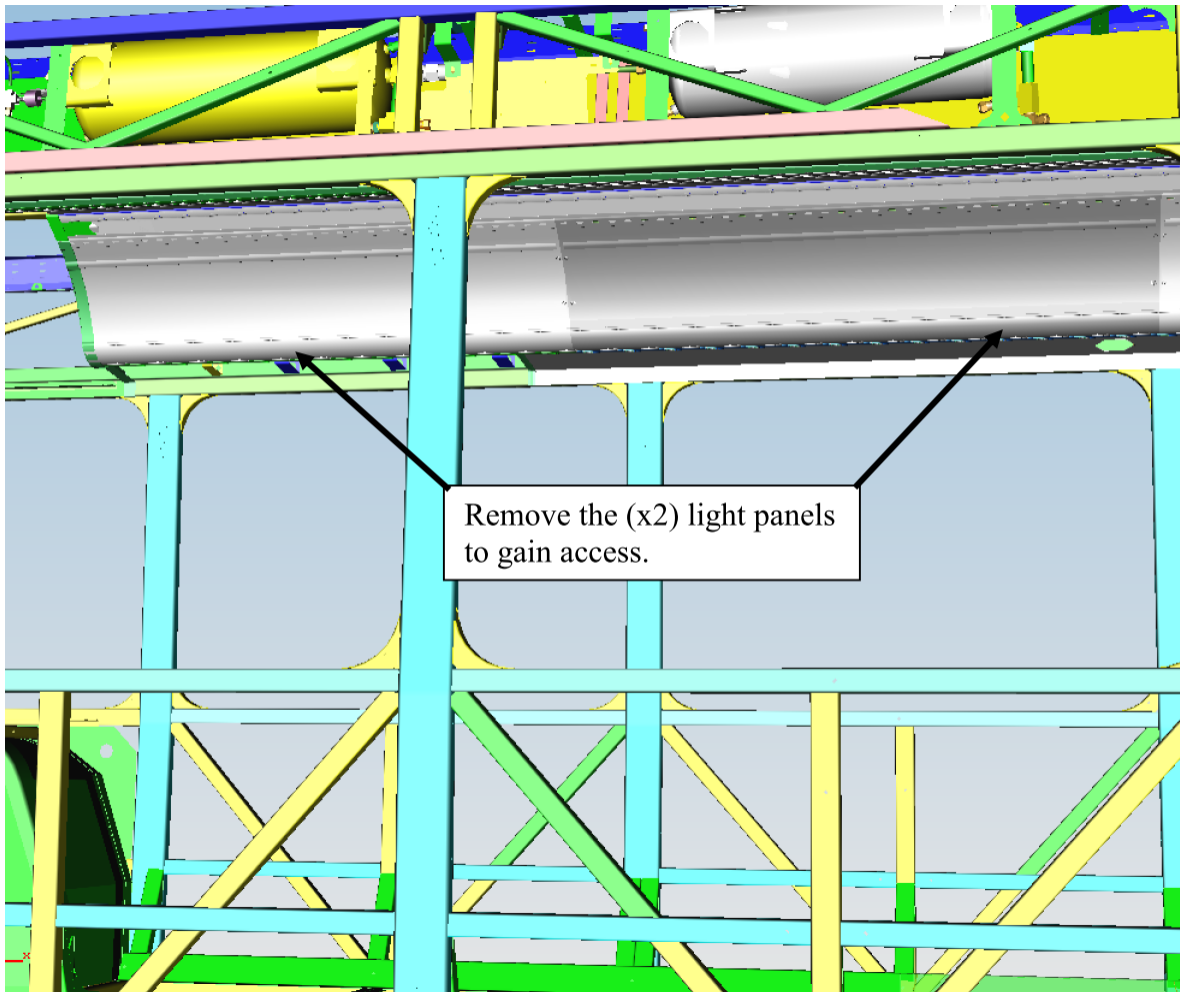

FIGURE 1: SHOWN LOCATION ON CURBSIDE TO REMOVE LIGHT PANELS (X2)
3. On the interior of the bus, locate the first 2 light banks on the curbside front of the bus, directly behind the curbside luggage rack. Remove the first (x2) light banks to gain access to the air accessory tank. **Note:** If the light panel has hardware on the bottom side, remove and set aside to re-install later. **Refer to Figure 1.**